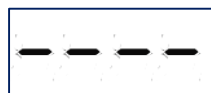

Fig11-2
- 2.3 When you complete setting the frequency number, please press the **MENU** again to confirm. Then the LED will show as Fig11-2.